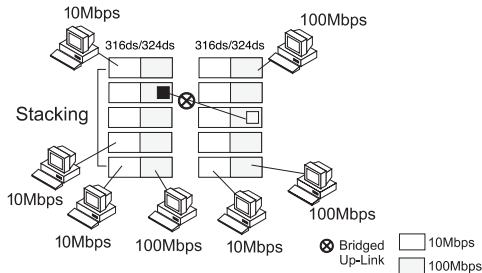

Figure 3-6 Network domains and bridged uplink.
- All PCs with 10Mbps network adapter cards transmit data at 10Mbps and form the 10Mbps network domain, as shown in Figure 3-6.
- PCs with 10/100Mbps network adapter cards will auto-negotiate and switch the network speed to 100Mbps. They transmit data at 100Mbps and form the 100Mbps network domain, as shown in Figure 3-6.